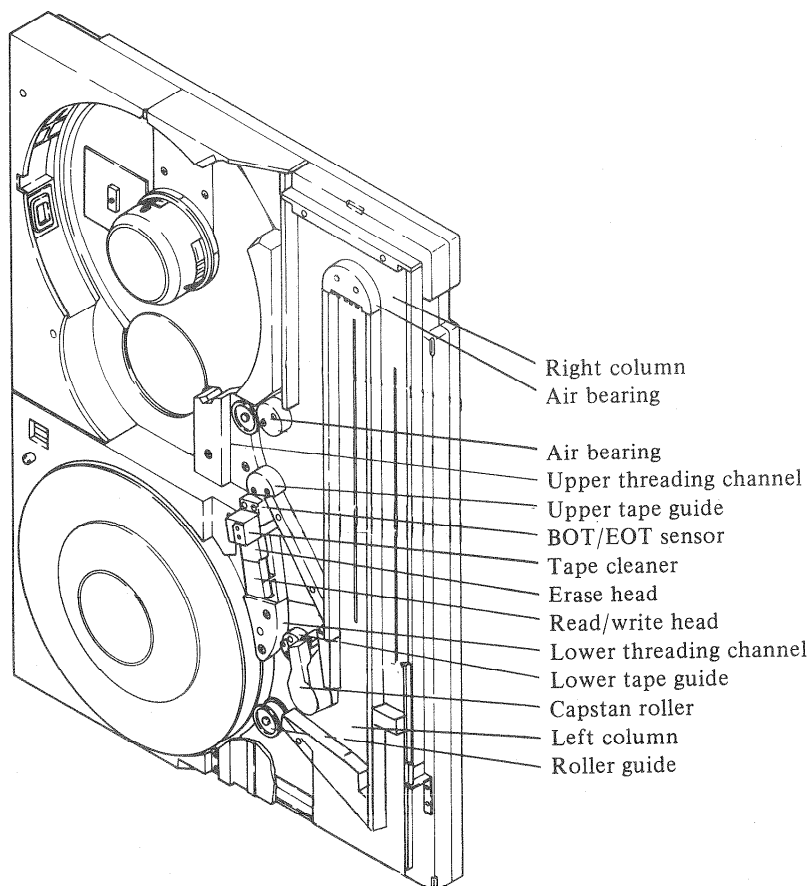

Figure 3.1 MTU components requiring cleaning
This chapter contains instructions for MTU cleaning prior to system checkout. Use the cleaning agent (solvent) that is supplied with the cleaner kit (B960-0110-T016A). In general, never apply rough or abrasive material or hard tools, such as metal bars, when cleaning MTU components. Clean the surfaces shown in Figure 3.1 and listed below with a gauze cloth soaked in solvent.
- (1) Tape guide (upper and lower)
- (2) Air bearing (see two locations in Figure 3.1)
- (3) Roller guide
- (4) Upper threading channel
- (5) Lower threading channel
- (6) Column interior
- (7) Glass cover
- (8) Photo sensor (beginning of tape and end of tape sensor).